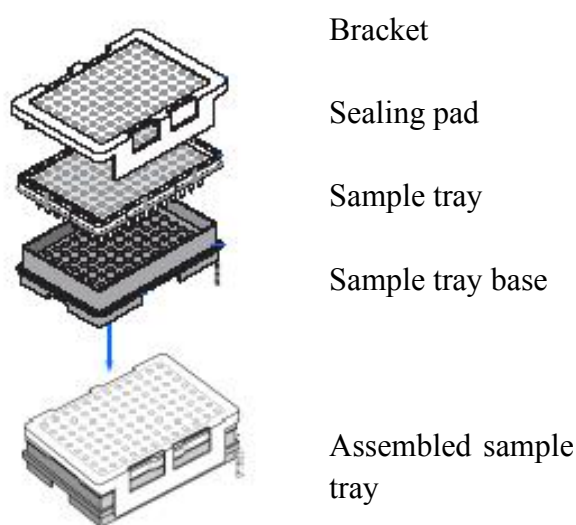

Figure 18. Assembly of Sample Tray
- (1) Place sample tray on a clean horizontal surface, put the sealing pad on the sample tray, align the wells of the sealing pad with the wells of the sample tray, and press firmly on the sample tray. Then put the sample tray on the base. Fix the sample tray and base with the sample tray bracket. As shown in Figure 18.